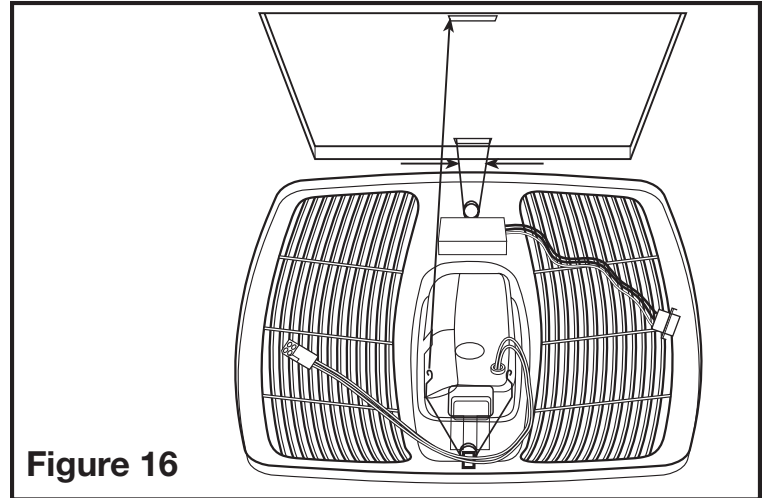

Figure 16
- 4b. **MOTION SENSING MODELS:** Install the grill by squeezing the springs together and installing it up into the slot furthest from the wire compartment on the fans housing. Attach the 4 pin quick connect from the grill to the 4 pin connector on the top of the wire cover. Attach the 4 pin quick connect from the motion sensor to the 4 pin connector on the top of the wire cover. The cords will only fit one way into the receptacle. Install the other spring and push the grill up into position. (**Figure 16**).